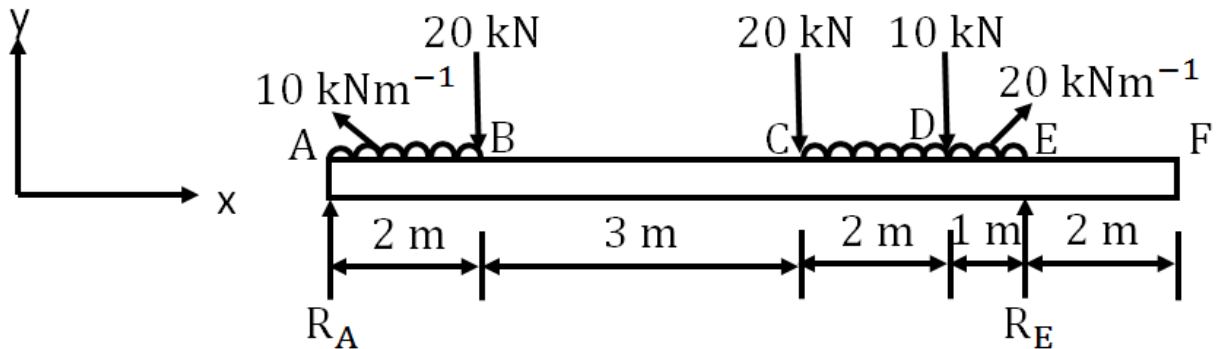

Fig. Q 1 (f)
- f. The beam shown in Fig. Q 1 (f) is loaded with a combination of concentrated and uniformly distributed loads. Suppose the point of inflection occurs between C and D, find its location from point C. [3 marks]